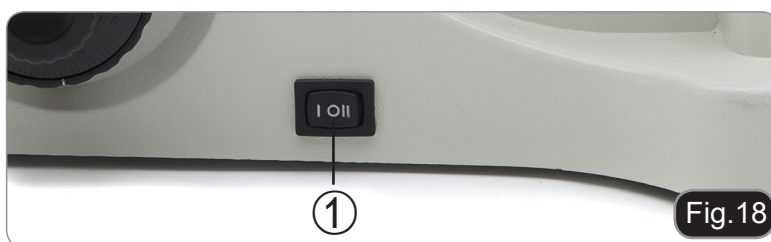

Fig.18
Connect the power, turn on the main switch ①. (Fig.18)